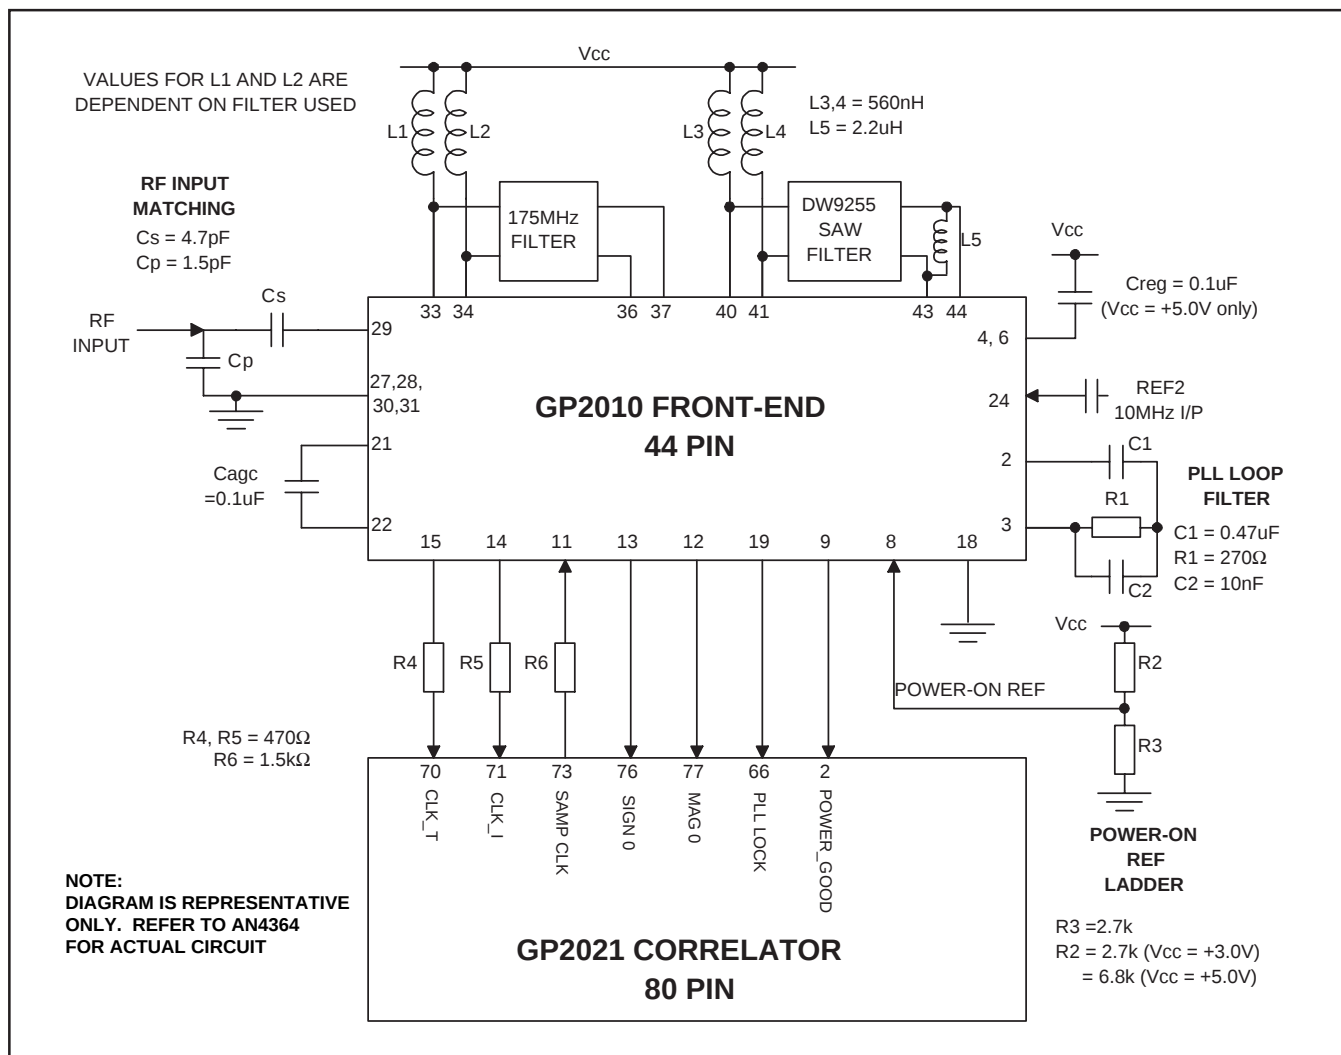

Fig. 4 GP2010 typical application
A typical application circuit is shown in figure 4 with the GP2010 front-end interfaced to the GP2021 12 channel correlator integrated circuit. The RF input has an unmatched input impedance (see page 4). The RF input matching components Cs and Cp should be mounted as close to the RF input as possible: also the Vee(RF) tracks must be kept as short as possible. A SAW may be used as a 175.42MHz filter, but this can be replaced by a simpler coupled-tuned LC filter if there is no critical out-of band jamming immunity requirement. The DC bias to mixer 1 is provided via inductors L1 and L2, which may form part of the 175.42MHz filter. The output of mixer 2 requires an external dc bias, achieved with inductors L3 and L4, which also serve to tune out the input capacitance of the DW9255 SAW filter. The output of the SAW is tuned with inductor L5. The AGC capacitor (Cagc) determines the AGC time-constant. The PLL loop filter components are selected to give a PLL loop bandwidth of approx. 10kHz. The IF Output is normally used for test-purposes only, but is available to the user if required. Typically a low noise preamplifier (gain >15dB) is used, and may be located with a remote antenna.